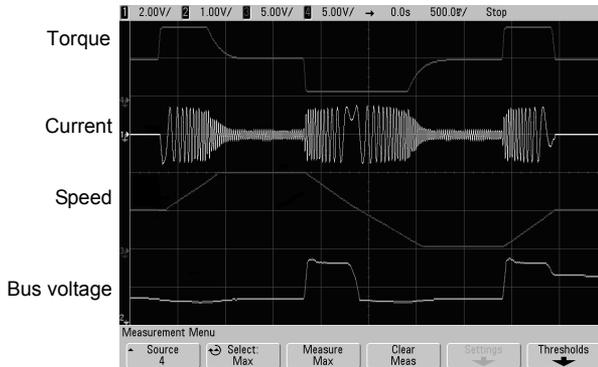

Figure 1 Quick acceleration/deceleration four-quadrant running in the form of 0Hz
- ◆ Figure 1 indicates the four-quadrant running of the motor under speed sensorless vector control. The torque, current, speed and DC bus voltage have quick response to ensure the stable running of the motor.